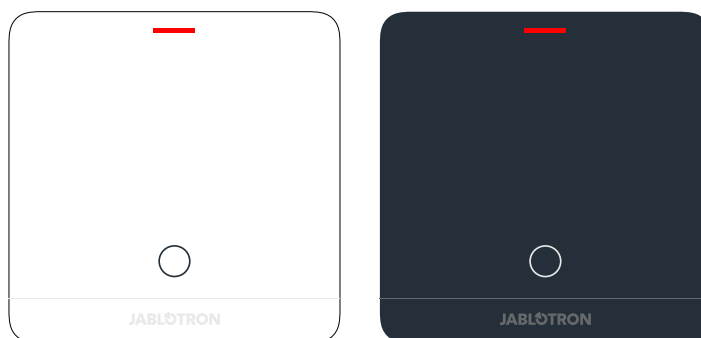

Figure 29 – JB-112TH CO₂ sensor
- **Analog Input IN1 and IN2 (0–10 V)** – used to control the unit's performance in Automatic Mode. A linear relationship between the unit's performance and the input voltage (0–10 V) can be user-defined. **Warning:** Some systems may not be able to supply a voltage starting from 0 V. In such cases, we recommend setting the airflow performance curve to a minimum of 1 V, as shown in Figure 29. This ensures the ventilation unit will not stop. The minimum value, even with an input voltage of 0 V, corresponds to 1% of the unit's performance, approximately 60 m³/h.